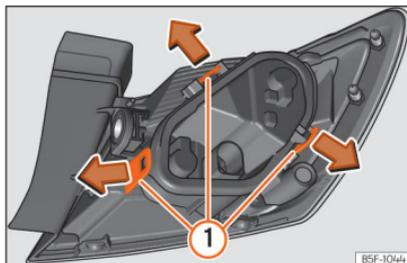

Fig. 116 Retaining tabs on reverse side of tail light.
- Remove the bulb holder » **Fig. 116** unlocking the retaining tabs ①.